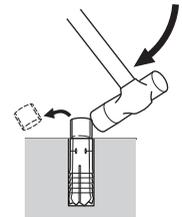

Fig. 11
- (5) By employing a manual hammer or pliers, snap off the tapered portion of the anchor. (**Fig. 11**)